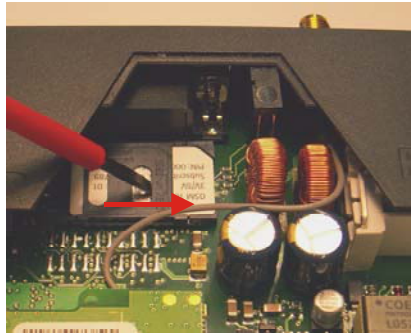

figure 2-11
12. With your fingernail or a suitable object move the flap about 2 mm to the right (in the direction of the arrow, see figure 2-11) until you can feel it click into place.